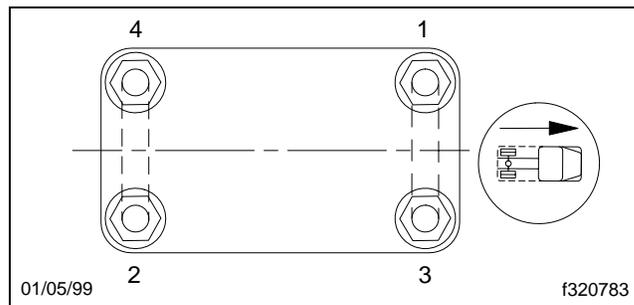

Fig. 4, U-Bolt Nut Tightening Sequence
21.3 Replace the second U-bolt on the left side, and evenly tighten the U-bolts 60 lbf-ft (81 N-m) in the sequence shown in **Fig. 4**.